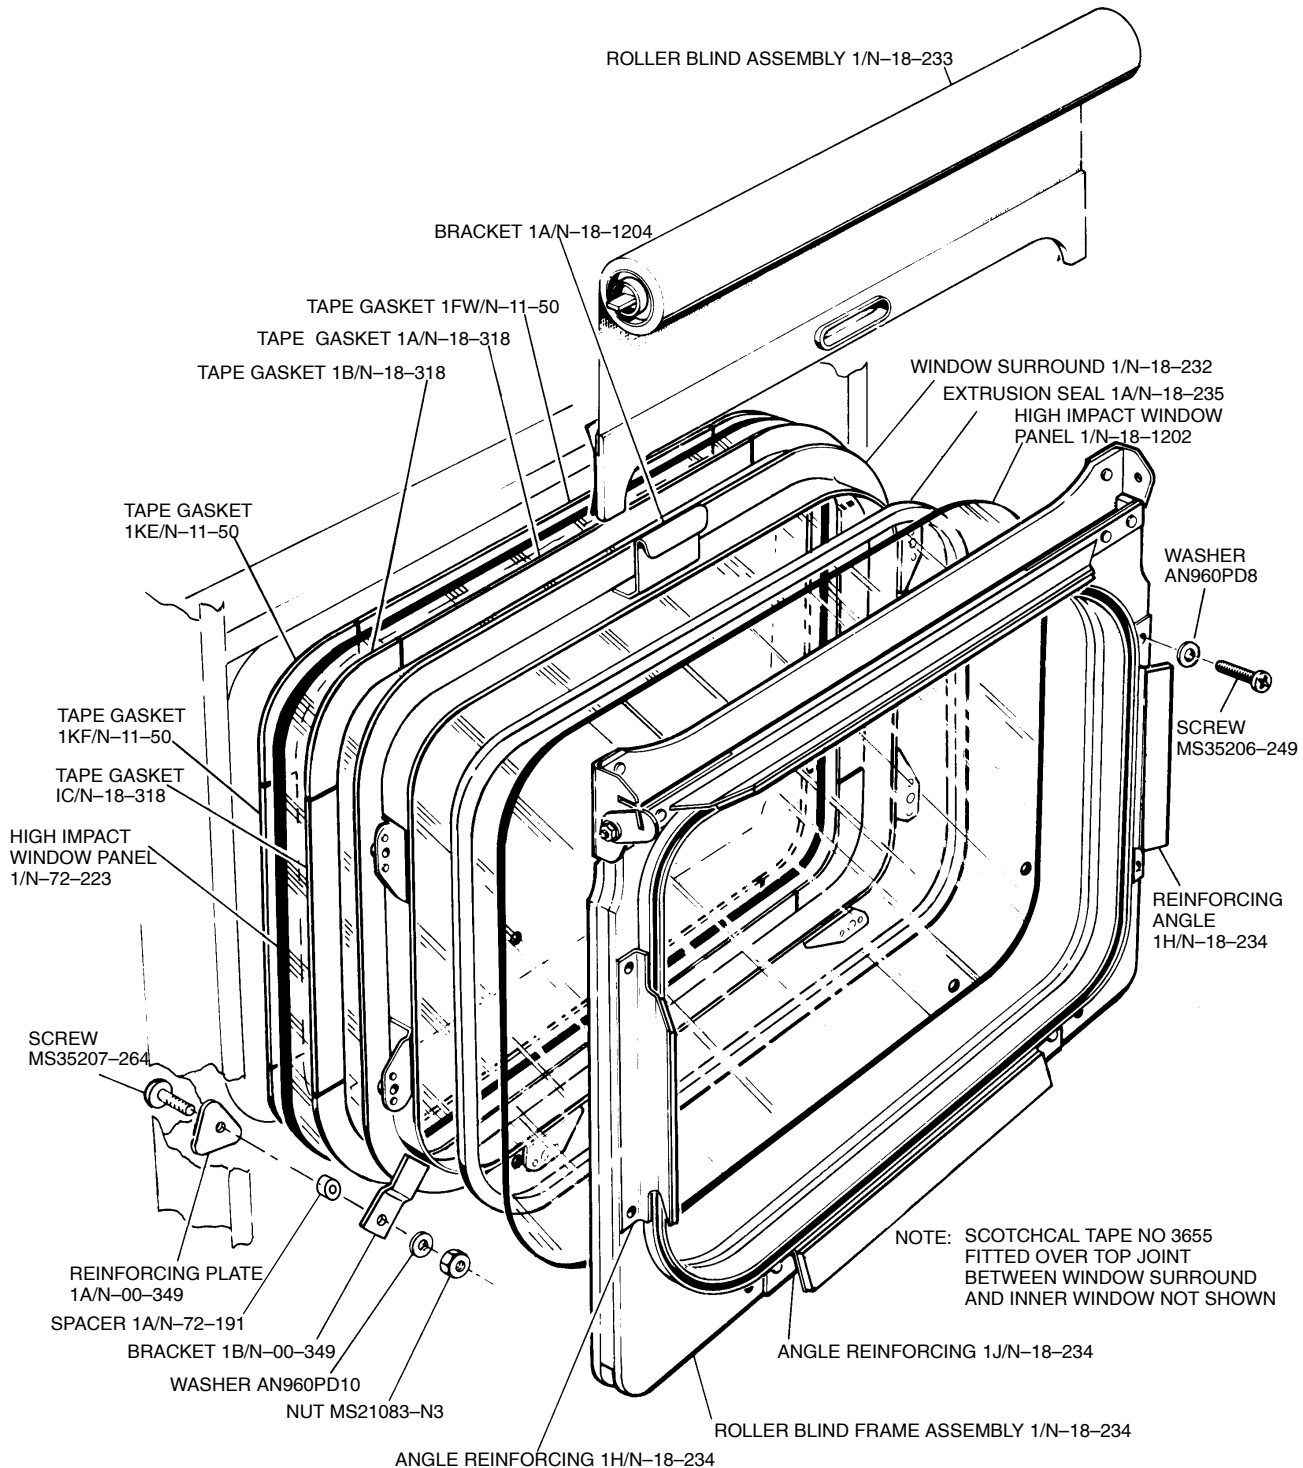

Figure 2 Window Installation
- (6) Separate the outer window panel from the window surround. These are adhered together by double sided adhesive gaskets.
- (7) Remove the double sided adhesive gaskets from the fuselage skin/outer window panel mating surfaces and also from the outer window panel/window surround mating surfaces as appropriate. Take care not to remove the position marks made in step (4). Return the inner and outer window panels to store.
- (8) Remove the weather proofing fillet of PR1221 sealing compound from the edges of the window aperture in the fuselage skin.
- (9) Incorporate Service Bulletin NMD-56-4 (Mod N481) before proceeding with the incorporation of this Service Bulletin (NMD-25-5).
B. Install the High Impact Polycarbonate Windows (Ref Figure 2)